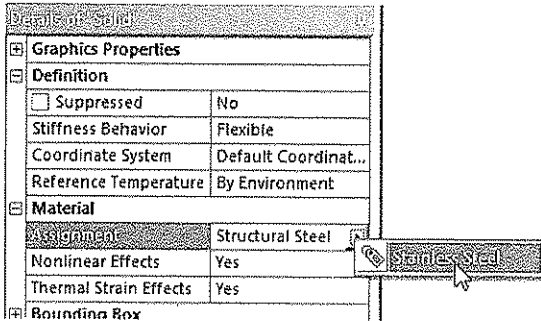

Figure 6-26 Selecting the Stainless Steel option from the drop-down list
3. In the **Details of “Solid”** window, click on the right arrow displayed on the right of **Assignment**; a drop-down list is displayed, as shown in Figure 6-26.